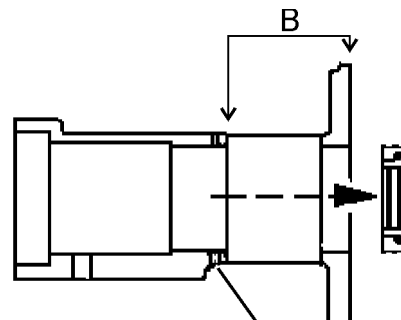
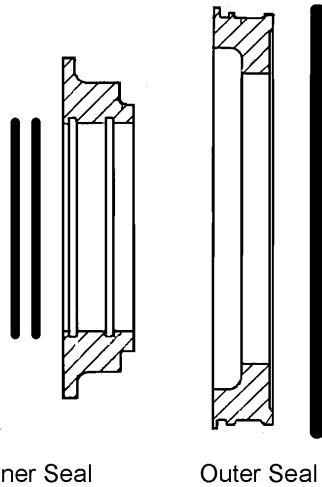
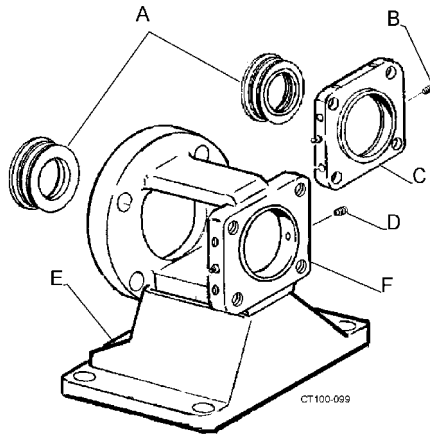

Figure 51 - Remove Set Screws
Figure 52 - Seal Configuration
Figure 53 - Outer Seal Assemblies
10. **For Style C;** Remove stand/housing assembly, than remove end cap. (Figure 53, item C on page 39).
1. Using an 1/8" hex wrench, loosen set screws (Figure 51, item A).
2. Remove the impeller end of the bearing housing. (Figure 51, item B).
3. Remove the outer seal ring assemblies (the inner seal ring and O-rings). (Figure 51) and Figure 52.
NOTE: Figure 52 shows seal position at motor end. Seals at pump end face inward. Make sure to tighten set screws when installing outer seal assemblies. (Figure 53).
Table 13: Call Outs for Figure 53